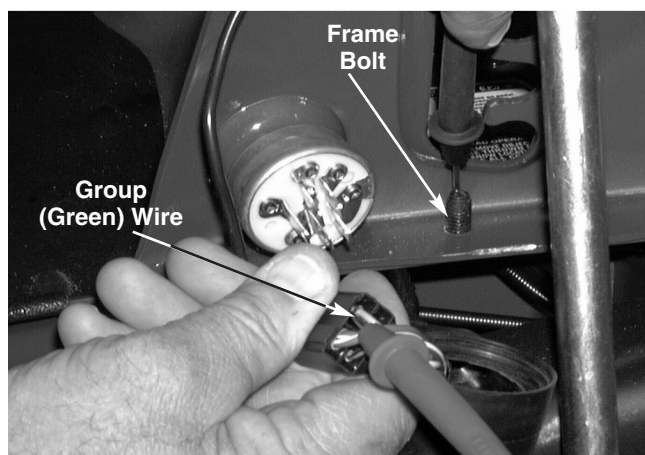

FIGURE 6.
–There will be **CONTINUITY**. See figure 6.